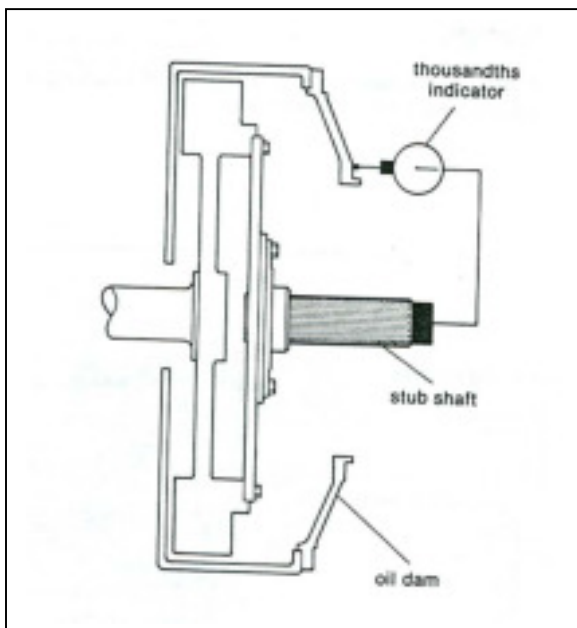

Figure 6. Securing Forward Clutch Driving Drum with Snap Ring.
9. Secure forward clutch driving drum on stub shaft. Make certain that dogs on pump drive gear enter slots in driving drum. Install snap ring in groove on stub shaft and make sure ring seats in groove (see figure 6).